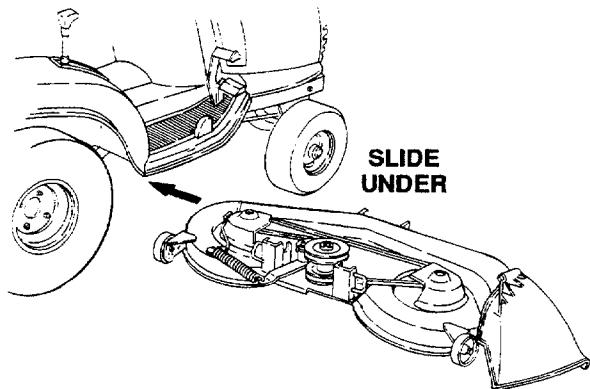

Figure 45
- Refer to Figure 45 and position the deck on the right side of the tractor with the front of the deck facing toward the front of the tractor. Raise the tractor implement lift handle to its highest setting and slide the deck under the tractor.